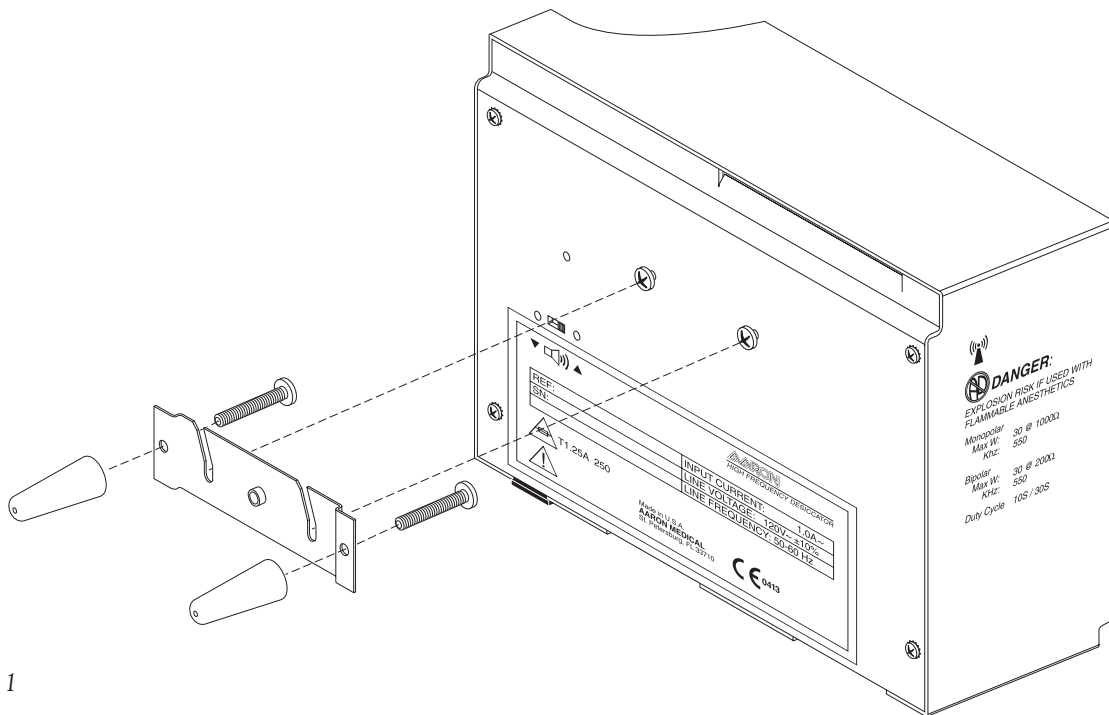

Figure 1
1. Mount the Aaron High Frequency Desiccator on the wall or optional mobile stand using the standard mounting kit (see figure 1). Do not operate the unit in the horizontal position, as liquids may spill into unit.